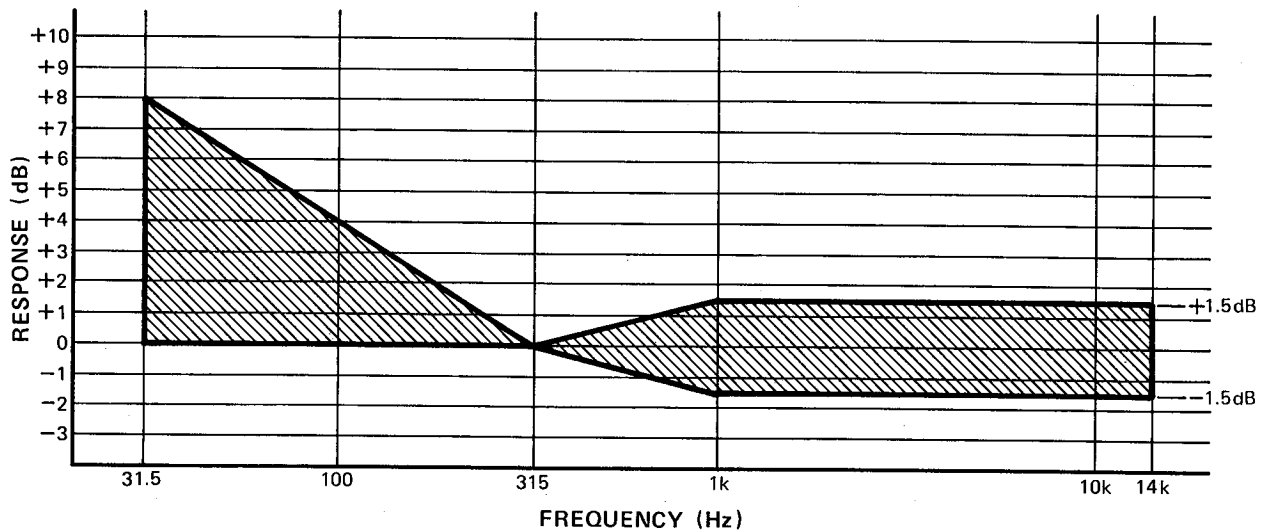

Fig. 6
3. Play back the test tape and adjust VR101 (left), VR102 (right) so that the playback frequency response is within the range as shown in Fig. 6.